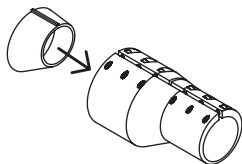

Figure 1
2. Place **Coupler Insert** into **Coupler**. Align locating tab of insert in the slot of the Coupler. **See Figure 1**